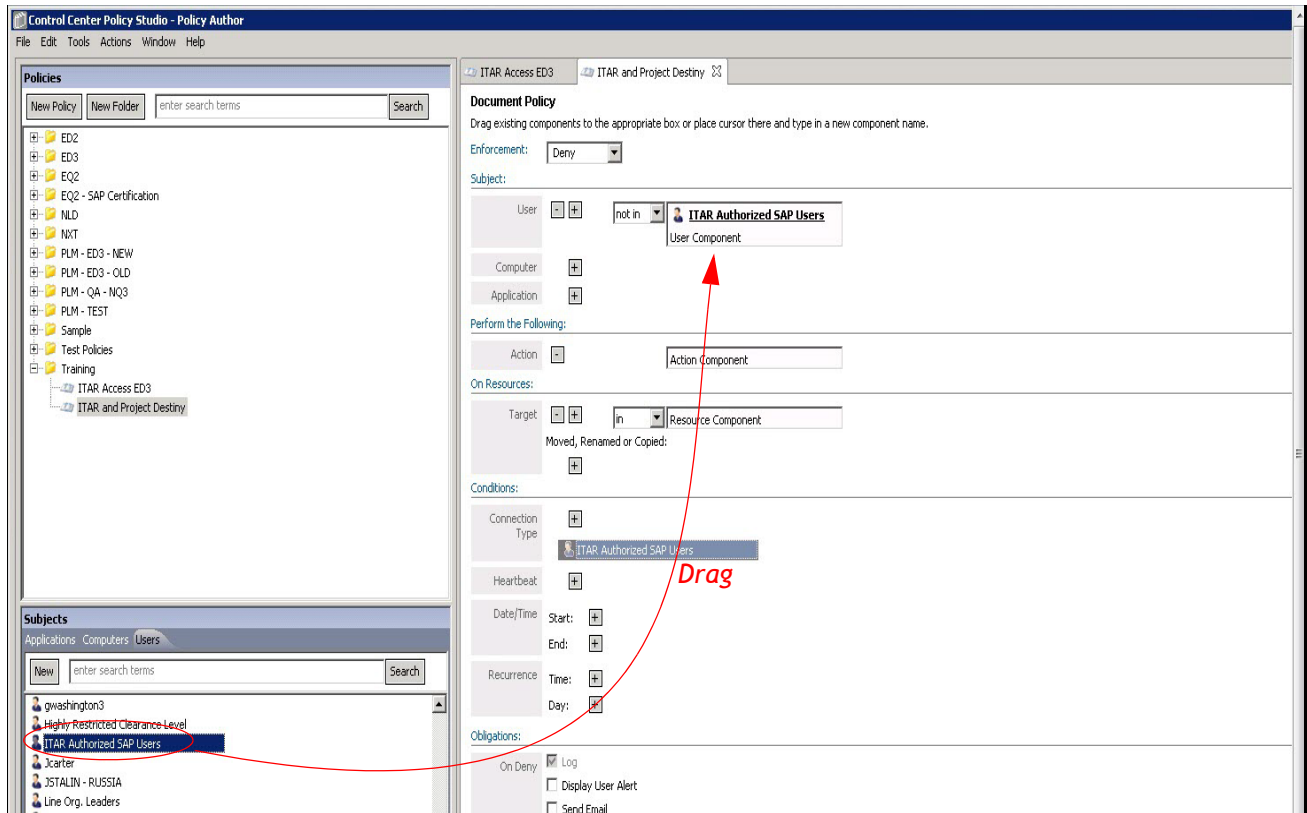

Figure 6-18: Adding a User Component
- 5 After the new User component is created, select it from the list of components and drag it into the User policy field (as shown in Figure 6-18).